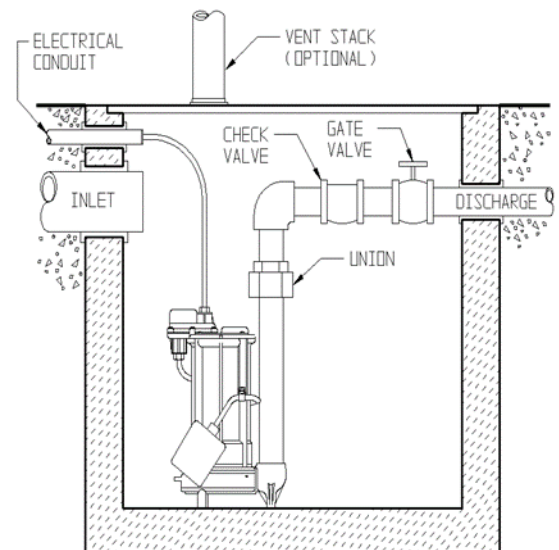

Fig. 2 – Typical Installation Simplex System
- A. **Simplex (One Pump) Systems (see Fig. 2):** Set the pump in place making sure the float has adequate clearance to the side wall of the basin. The float must be **free to move throughout its travel** and not contacting the pump body, piping, or other objects. If an optional control device or float is used, follow the directions for mounting that accompany the optional control. Connect the discharge pipe to the pump's threaded discharge. **IMPORTANT: DO NOT REDUCE THE DISCHARGE PIPE SIZE BELOW THAT WHICH IS PROVIDED ON THE PUMP.** Contact Liberty Pumps or other qualified person if you have questions regarding proper pipe sizes and flow rates. Mount the basin cover making sure it is properly sealed.